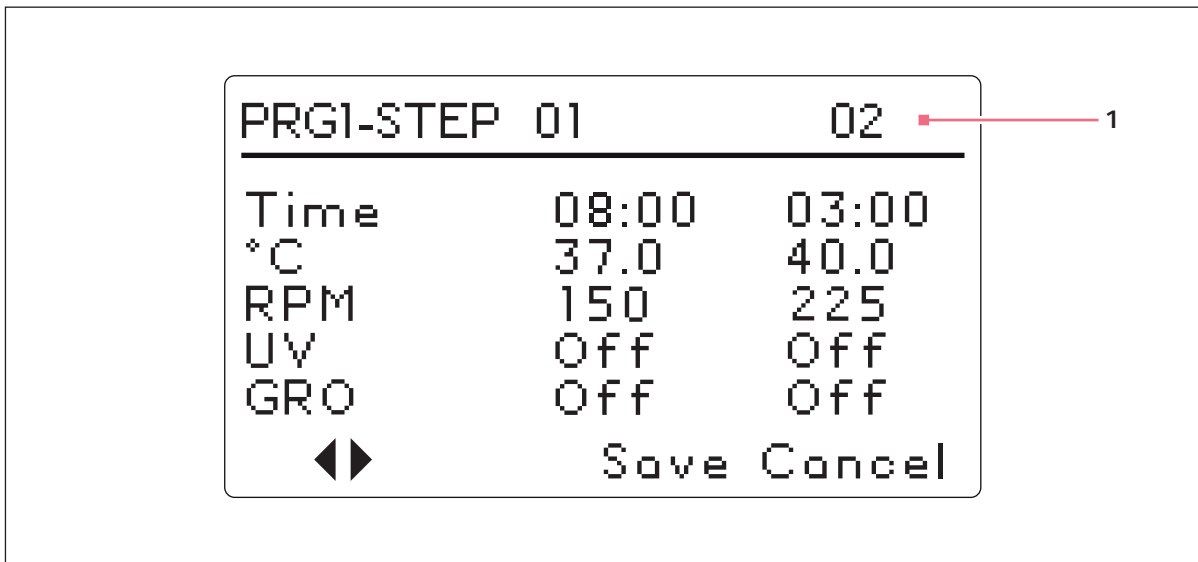

Fig. 5-13: Program 1, Step 2
6. To set the temperature desired (°C from 4.0 to 80.0) for the time period you have set, turn the Control Knob (left to decrease, right to increase). When the desired value appears, click the Control Knob in to save the setting. We will set Step 1 temperature to **37.0 °C** (see Fig. 5-13 on p. 59).
8. Turn the Control Knob to select the desired shaking speed (25 to 400 RPM) for this time period, then click the Control Knob in to save the setting. We will set Step 1 speed to 150 RPM (see Fig. 5-13 on p. 59).
9. To program Step 2 (see Fig. 5-13 on p. 59): use the Control Knob to highlight the arrows at the bottom left of the screen. Click the Control Knob to make the arrows flash, then turn the Control Knob to the right until Step 2 appears. Click the Control Knob in to work in this screen, and repeat Steps 3-10.